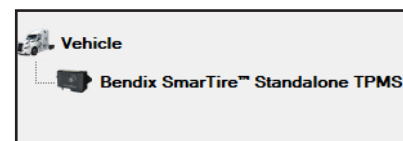

Figure 1 – ACom PRO - SmarTire TPMS
1. Launch ACom PRO Diagnostic Software and connect to the vehicle as normal. When the ECU list is displayed on the left-hand side of the screen, *select Bendix™ SmarTire® Standalone TPMS as shown in Figure 1.*